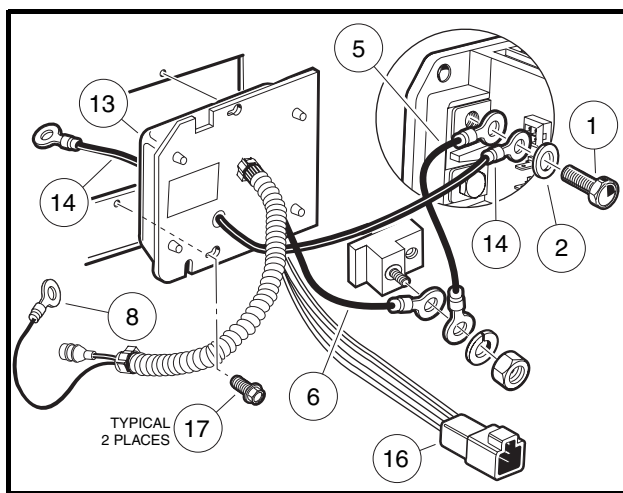
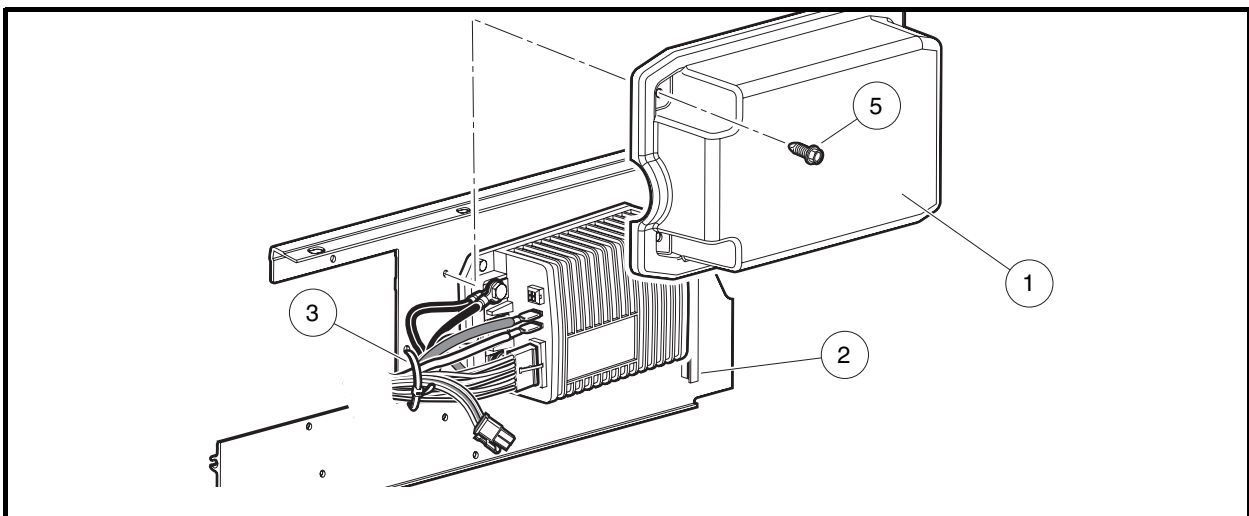

Figure 13-6 Onboard Computer
Figure 13-7 Speed Controller Cover
2. Remove rear body access panel and unplug the six-pin connector (16) at the OBC (**Figure 13-6, Page 13-8**).
3. Remove the two screws (5) from the speed controller cover (1) and remove the cover (**Figure 13-7, Page 13-9**).
4. Remove the wire tie (3) securing the speed controller wires to the mounting plate.
5. Remove black 6-gauge wire (14) and black 10-gauge wire (5) from the speed controller B- terminal (**Figure 13-6, Page 13-8**).
6. Remove the black 10-gauge wire (6) from the accessory mounting terminal.
8. Disconnect the black 10-gauge wire (8) at the charger receptacle.
10. Loosen, but do not remove, the two self-tapping screws (17) holding OBC to component mounting plate.
11. Slide OBC towards outside of vehicle and align heads of self-tapping screws (17) with the two holes in the OBC face plate. Pull OBC towards rear of vehicle and remove from component mounting plate.
3. Install the OBC onto the component mounting plate by aligning the two holes on the OBC face plate with two holes on component mounting plate. Slide OBC towards inside of vehicle and align heads of self-tapping screws (17) with smaller part of two holes in OBC face plate (**Figure 13-6, Page 13-8**). Tighten screws to 60 in-lb (6.7 N-m). **See following NOTE.**
5. Connect the black 10-gauge wire (8) to the charger receptacle (**Figure 13-6, Page 13-8**). Tighten to 23 in-lb (2.6 N-m).
7. Connect the black 10-gauge wire (6) to the accessory mounting terminal. Install the nut on the accessory terminal and tighten to 9 ft-lb (12.2 N-m).
8. Connect the black 6-gauge wire (14) and black 10-gauge wire (5) to the speed controller B- terminal with the washer (2) and bolt (1) and tighten to 9 ft-lb (12.2 N-m) (**Figure 13-6, Page 13-8**).
9. Plug the six-pin connector (16) from the OBC into the vehicle wire harness.
10. Install a wire tie (3) to tightly secure the speed controller wires to the component mounting plate (**Figure 13-7, Page 13-9**).
11. Place the edge of the speed controller cover (1) into the slot (2). Press the controller cover onto the component mounting plate over the speed controller and install the two screws (5) (**Figure 13-7, Page 13-9**). Tighten the screws (5) to 60 in-lb (6.8 N-m). **See following NOTE.**
3. Place the edge of the speed controller cover (1) into the slot (2). Press the controller cover onto the component mounting plate over the speed controller and install the two screws (5) (**Figure 13-7, Page 13-9**). Tighten the screws (5) to 60 in-lb (6.8 N·m). **See following NOTE.**